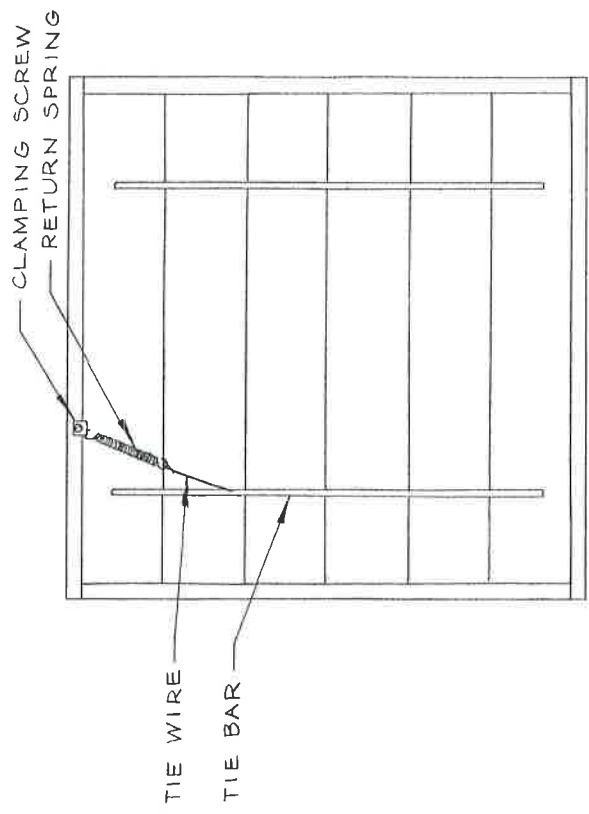
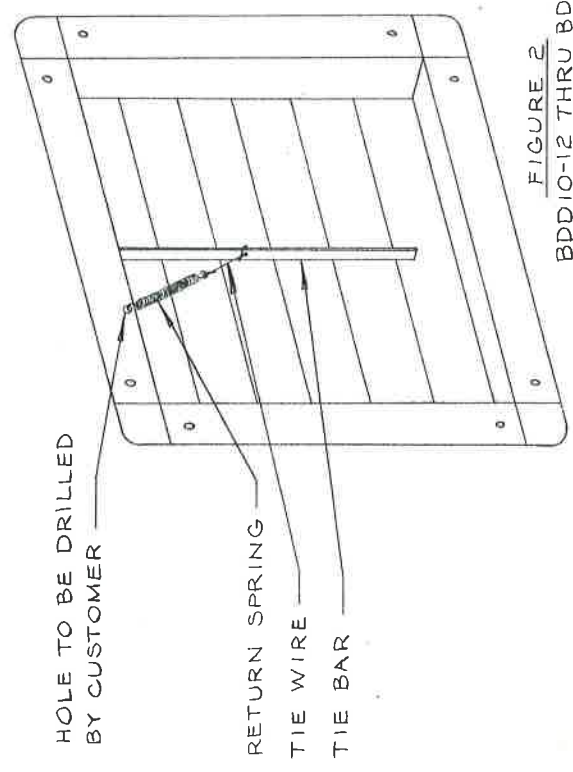

FIGURE 1
FIGURE 2
THE SPRING(S) ARE TO BE MOUNTED AS SHOWN IN FIGURE 1, 2 OR 3 DEPENDING ON THE DAMPER SIZE. MOUNT THE CLAMP TO THE SHUTTER FRAME BY TIGHTENING THE CLAMPING SCREW. (NOTE: ON 10" THROUGH 20" DAMPERS, THE CLAMP IS NOT USED. IT IS NECESSARY TO DRILL A SMALL HOLE IN THE FLANGE. SEE FIGURE 2. ATTACH THE SPRING DIRECTLY TO THE DAMPER.) PUT THE WIRE THROUGH A HOLE IN THE TIE BAR AND TENSION THE SPRING JUST ENOUGH SO THAT THE DAMPER BLADES WILL STAY CLOSED WHEN THE DAMPER IS HORIZONTAL.